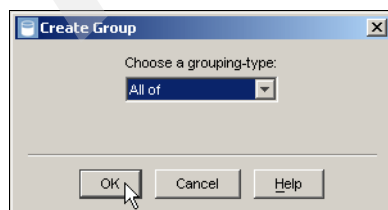

Figure 2-6 Create an All of group
6. Select **All of** in the list box for grouping-type. In other words, a logical AND for all conditions as seen in Figure 2-6.